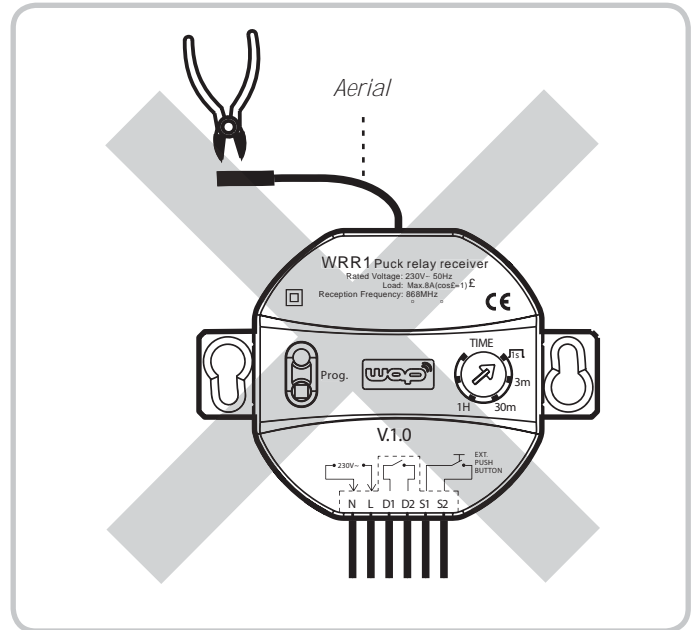
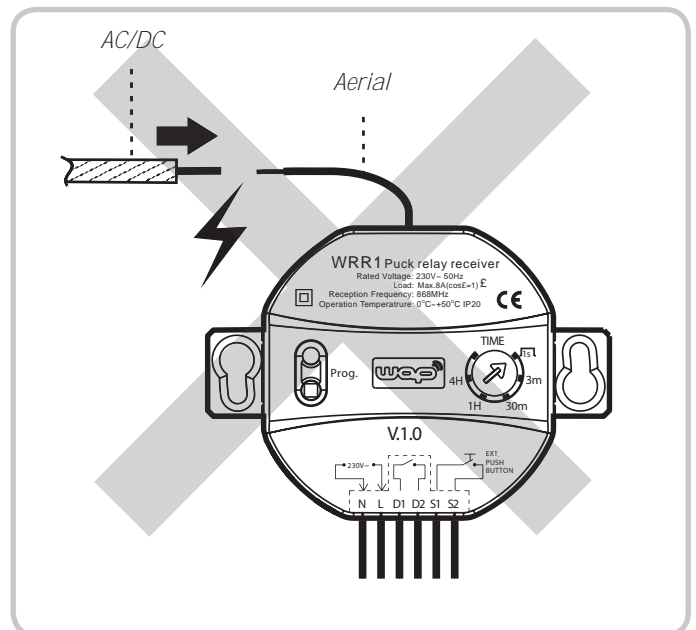

Fig. 1
Fig. 2
- Do not connect live cables to the aerial. This causes disturbance to it (see Fig. 2). Do not remove the aerial's sheath either (see Fig. 1).